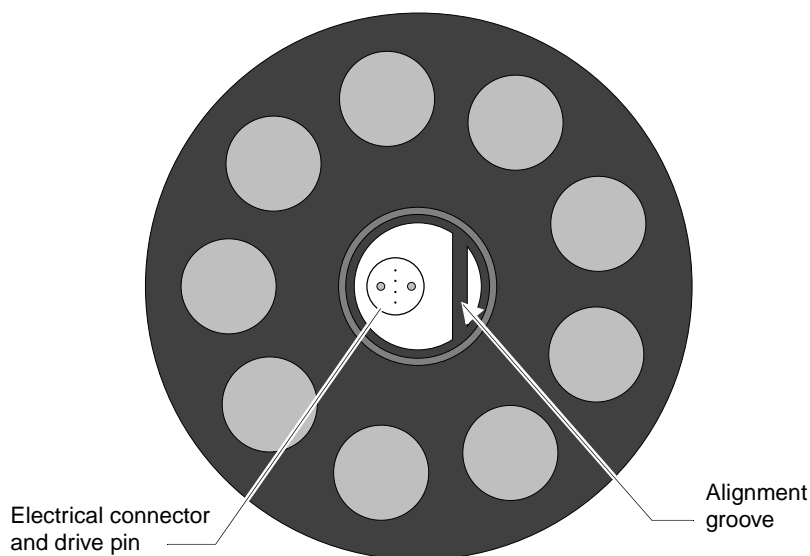

Figure 63. Bottom View of Carousel, Showing Connector and Groove
5. Look at the bottom of the carousel. You see a connector and a groove that fit into the connector and alignment bar on the top of the driver, as shown in Figure 63. Notice the orientation of the connector and the alignment groove and compare this to the driver connector and alignment bar.
1. Make sure the sensor arm on the carousel is locked in between positions 9 and 1. The groove in the bottom of the carousel (see **Figure 63**) should be 90° (perpendicular) to position 9.
4. Push down on the carousel until it seats. This engages the electrical connector and drive pin (see **Figure 63**).